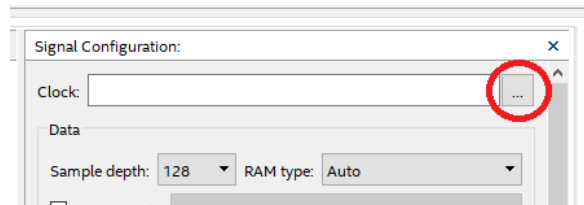

Figure 14: Button used to define the clock signal in Signal Tap.
- Start **Signal Tap Logic Analyzer** from the **Tools** menu and make sure that the **Setup** pane is activated in the bottom left. On the right side of the screen you should see the **Signal Configuration** pane, where you can define how to capture the FPGA signals. First we will define a clock signal but pressing the ... button to the right of the **Clock** field, marked with a red circle in Fig. 14. We want to see the signal names before synthesis, since the synthesis process might have changed them, so select **Signal Tap: pre-synthesis** in the drop down menu and press the **List** button. Double-click on the `rx_clk_in`, which is a 80 MHz clock signal coming from the ARRADIO board, to select it and press **OK**.